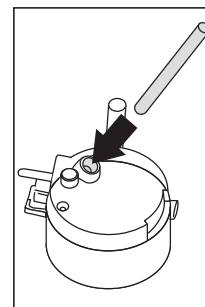

Fig. 31
- ▶ Make sure the intake tube is correctly inserted in the rubber washer (Fig. 31), then replace the milk container lid.